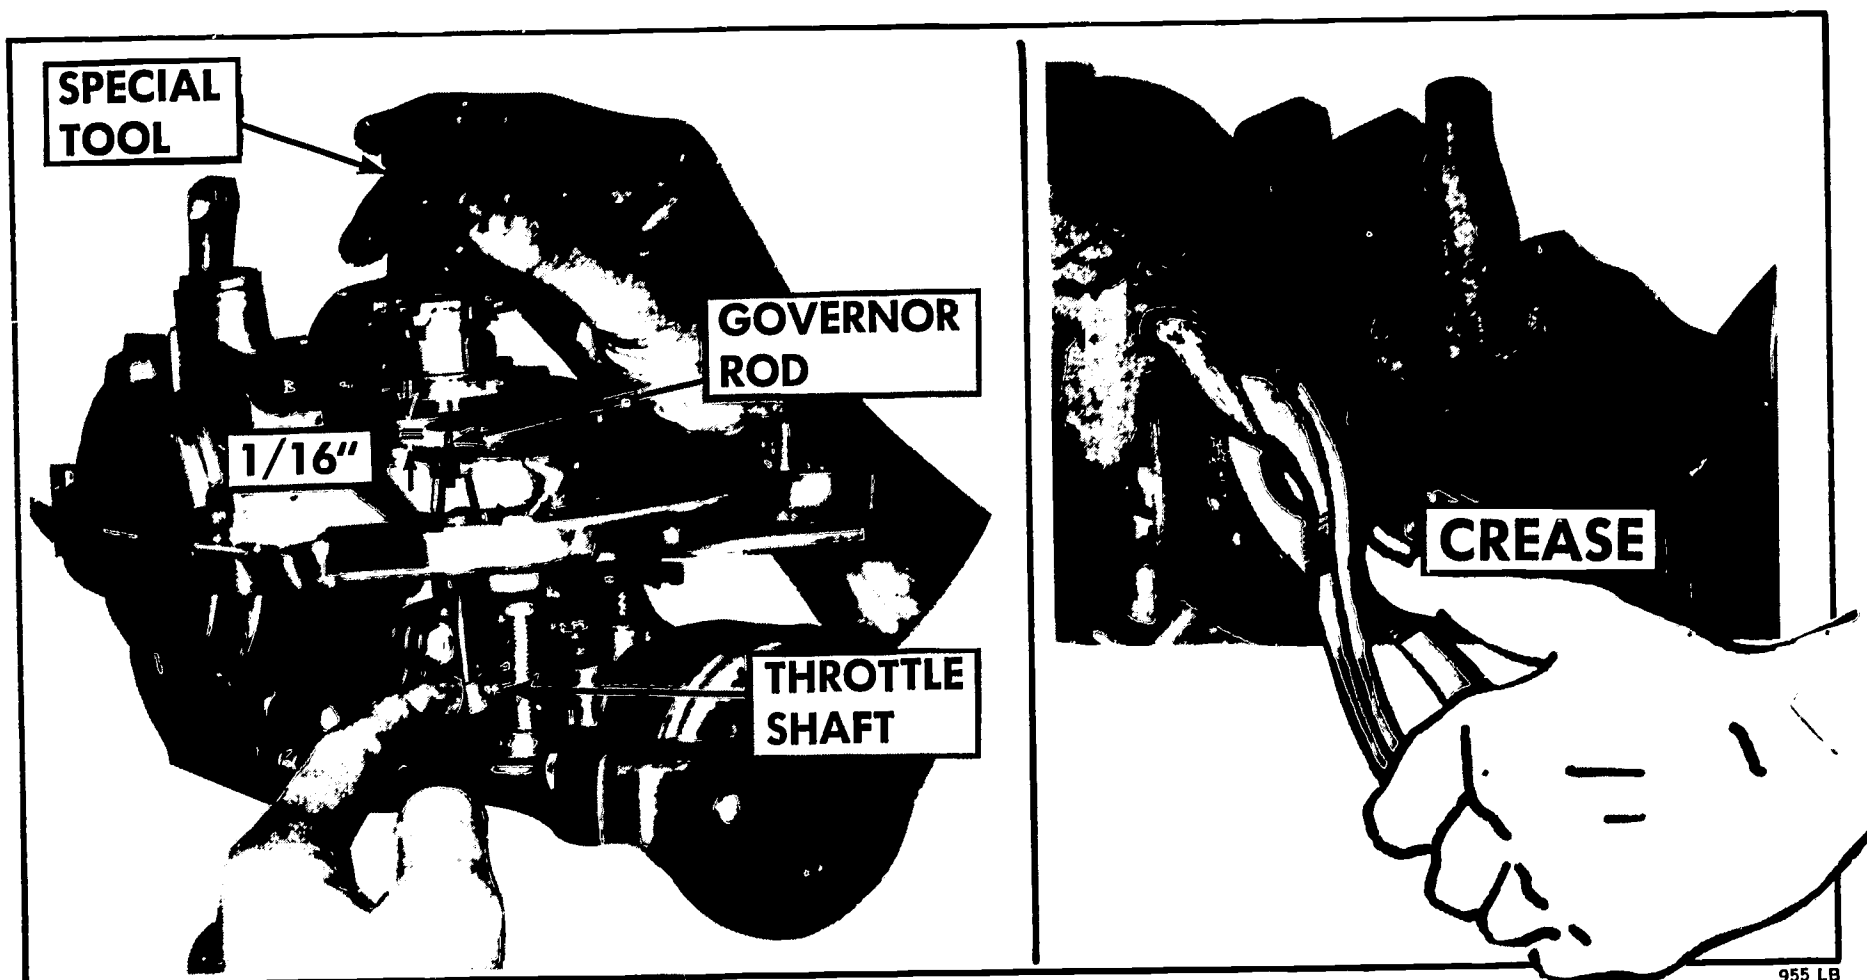

FIGURE 173. (a) Checking the governor-lever adjustment. (b) Adjusting the governor lever for clearance between it and the governor rod.
7. Check governor lever adjustment (Figure 173).
Hold flyweights down with a pipe nipple. At the same time close the throttle by hand. Measure the clearance between the governor lever and the governor rod (Figure 173). It should be approximately 1/16 inch. Note in Figure 173a how the governor arm extends over the end of the governor rod. Adjust by bending the governor lever at the crease (Figure 173b).